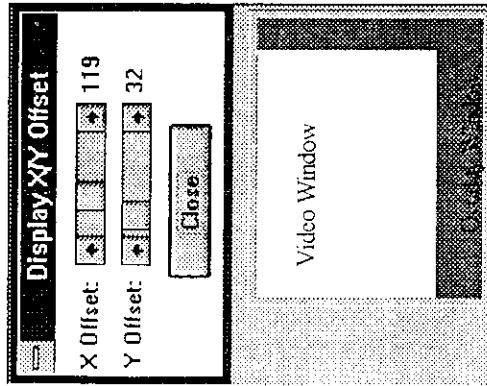

Figure 3-23.
- CLICK on "Overlay Key Control" to set VGA Color Key to a color key value other than the default. CLICK on "Display X/Y Offset" to adjust the video window within the overlay window. When the video window is centered, it will completely cover the overlay window (see Figure 3-23).